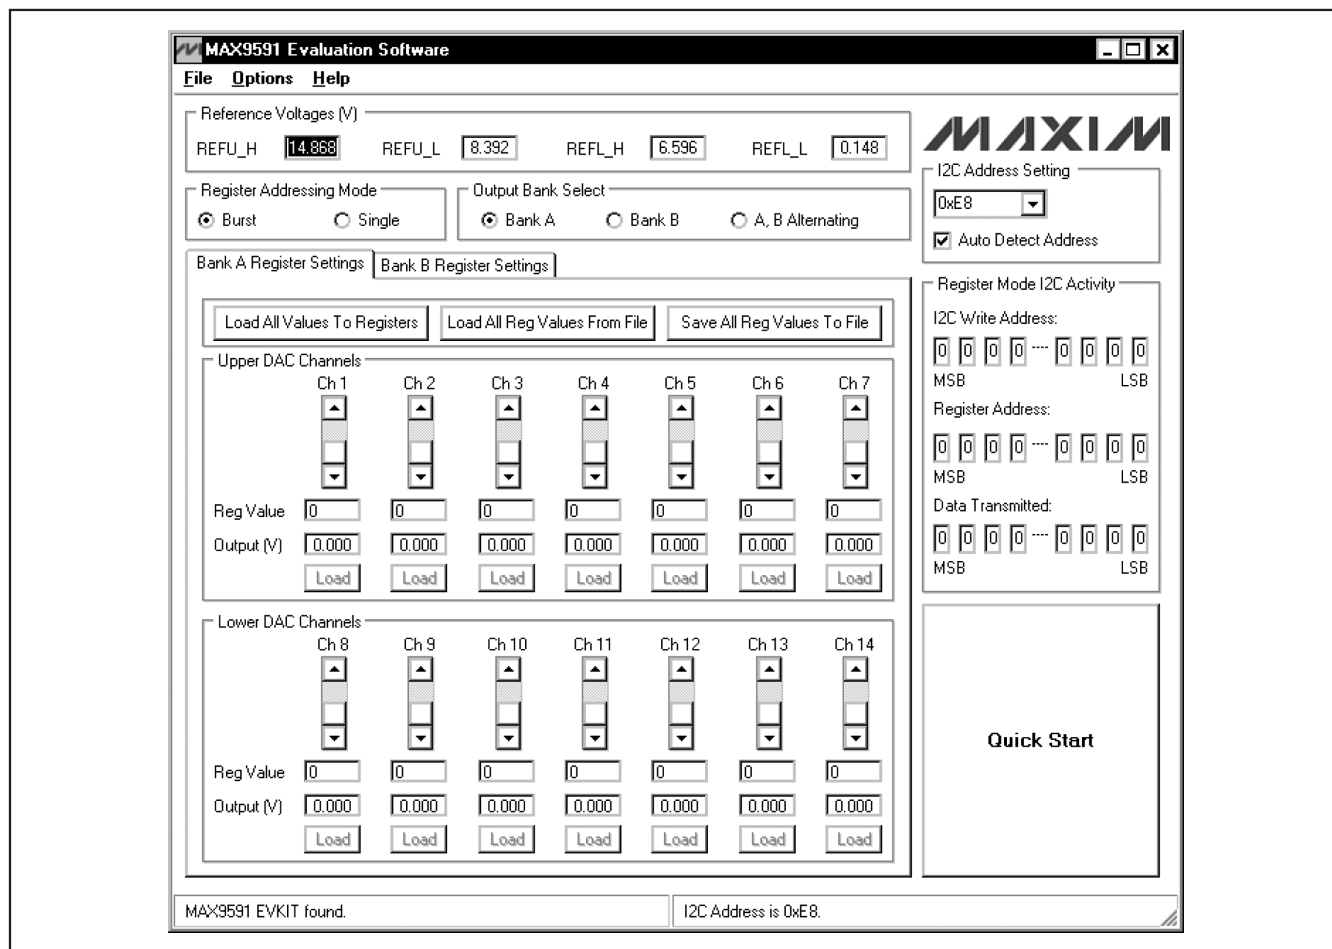

Figure 1. MAX9591 Evaluation Software Main Window
- 13) Start the MAX9591 EV kit software by opening its icon in the **Start | Programs** menu. The EV kit software main window appears, as shown in Figure 1.
- 14) Use the DVM voltage probe to measure the reference input voltages on the REFU\_H, REFU\_L, REFL\_H and REFL\_L PCB pads, and type those values into the corresponding edit boxes of the **Reference Voltages (V)** group box.
- 16) Use the DVM voltage probe to verify that the DAC output voltages are close to the voltages shown in the **Output (V)** edit boxes for the respective channel.
The MAX9591 evaluation kit (EV kit) software main window is shown in Figure 1. The GUI software automatically detects the MAX9591 device address and displays it in the **I2C Address Setting** drop-down list and in the software status bar. The DAC output voltages in the **Upper DAC Channels/Lower DAC Channels** group boxes are calculated using the upper and lower reference input voltages on PCB pads REFU\_H, REFU\_L, REFL\_H, and REFL\_L. The reference input voltages **MUST** be measured at the appropriate PCB pads and the values entered in the respective **Reference Voltages (V)** edit boxes for the DAC output calculations to be correct.